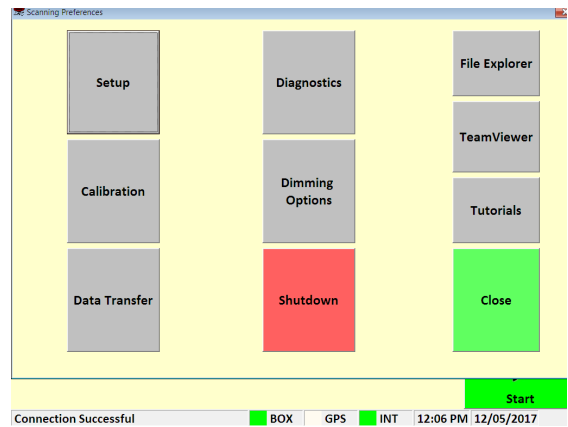

Figure 4.1. Options Window.
2. Press the **Calibration** Menu button to open the Calibration menu window as shown in figure 4.1.